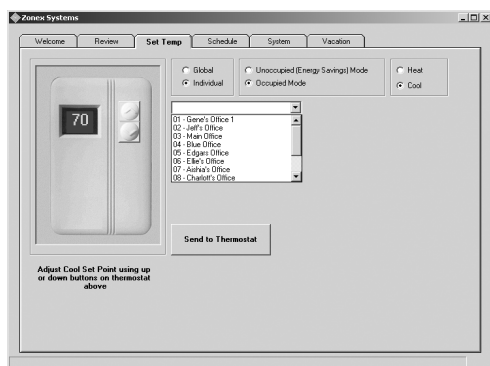

Fig. 22
- To change temperature setpoints on all thermostats, click on the **Global** radio button (see Fig. 22); or,